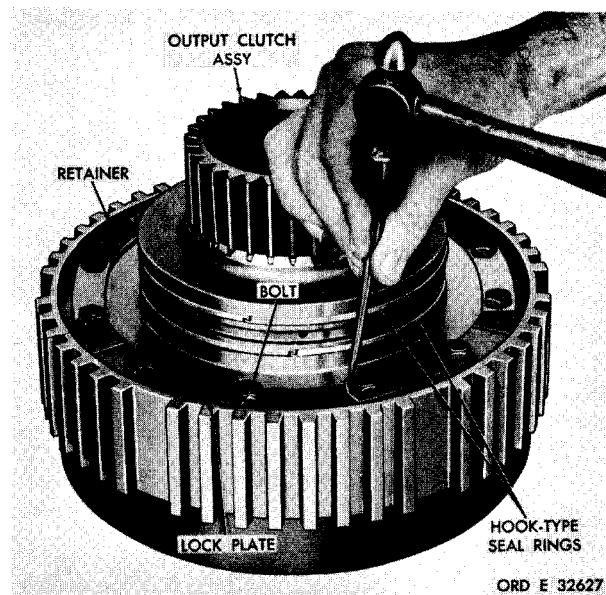

Figure 208. Straightening corners of output clutch lock plates
a. Remove two hook-type seal rings from the hub of the output clutch assembly (fig. 208).
b. Using a hammer and punch, flatten the corners of the lock plates on the output clutch assembly (fig. 208).
c. Using a 1/2-inch wrench, remove 12 bolts, six lock plates and three retainers from the clutch assembly (fig. 208).
k. Install three retainers and six lock plates (fig. 208).
l. Install twelve 5/16-24 bolts. Torque the bolts to 14-18 pound-feet. Bend corners of the lock strips against the heads of the bolts (fig. 208).
m. Install two hook-type seal rings on the hub of the output clutch assembly (fig. 208).